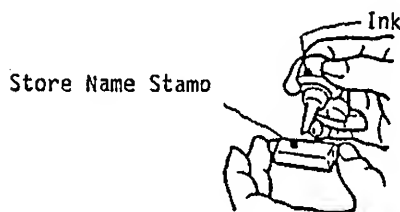

Fig. 6
4. Apply ink on the pad on the rear side of the Store Name Stamp. The amount of the refilling should be adjusted according to the density of the printed message, but the limit of 2 cc should not be exceeded. (The ink bottle supplied contains 5 cc of ink.) (Fig. 6)